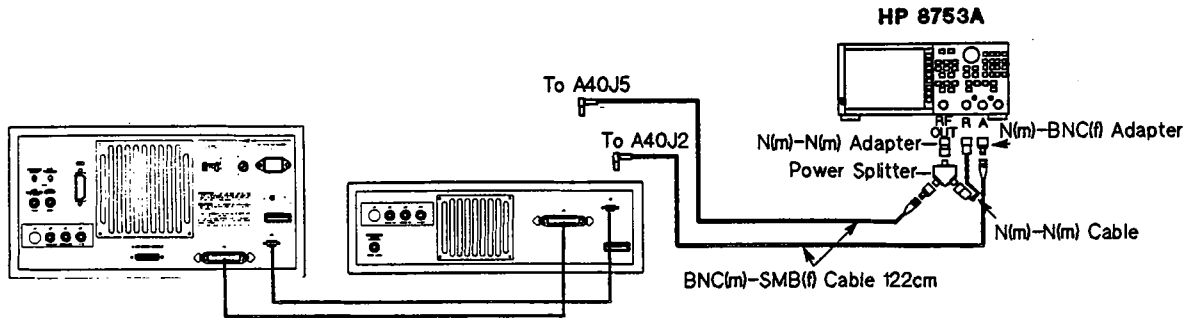

Figure 3-104. Source Second IF Converter Second 86.6 MHz BPF Adjustment Setup
2. Connect the equipment as shown in Figure 3-104.
3. Change the jumper position of A40J6 "N" to "T" as shown in Figure 3-104.
4. Disconnect coaxial cables (H), (D), (B), and (N) from A40J1, A40J3, A40J4, and A40J7, respectively.